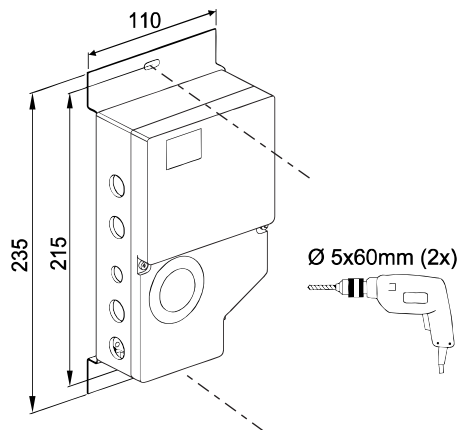

Fig. 13
2. Secure the mounting bracket to the wall using two screws and plugs. See Fig. 13.